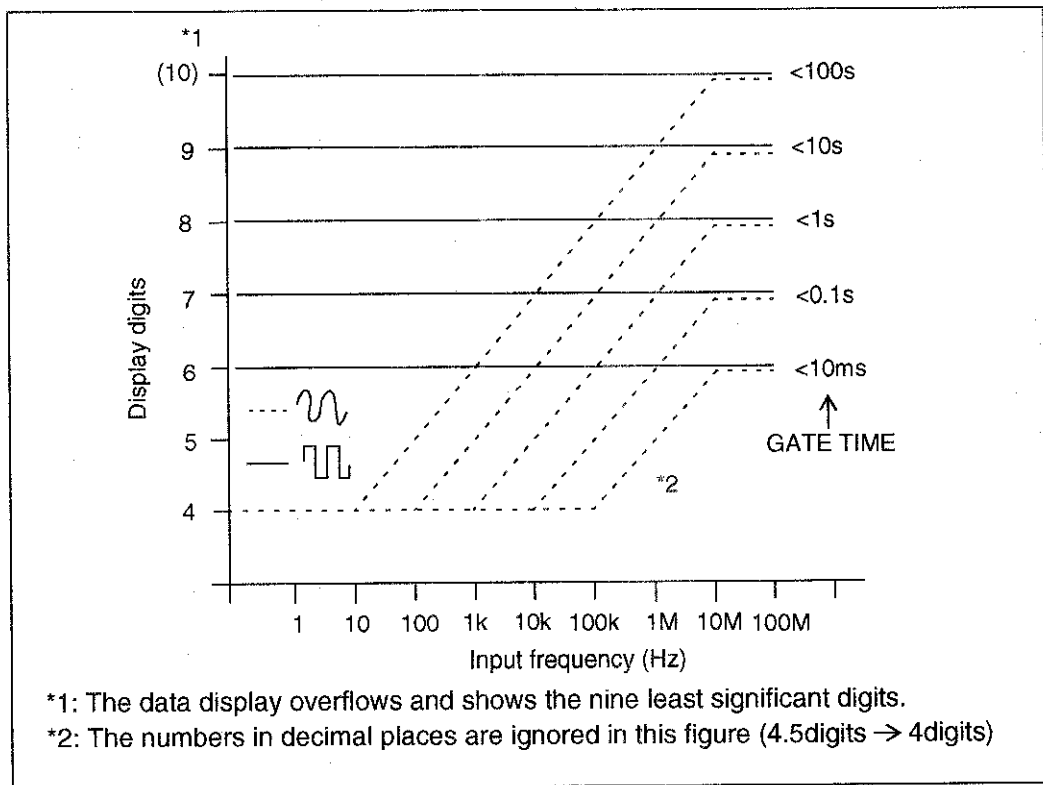

Figure 3-5 FREQ.B Sine-wave and Square-wave Modes
- ① Set FUNCTION to FREQ. B (sine wave) or FREQ.B (square wave). These two modes differ only in the number or display digits. (See figure 3-5.) All operations required for these modes are identical.